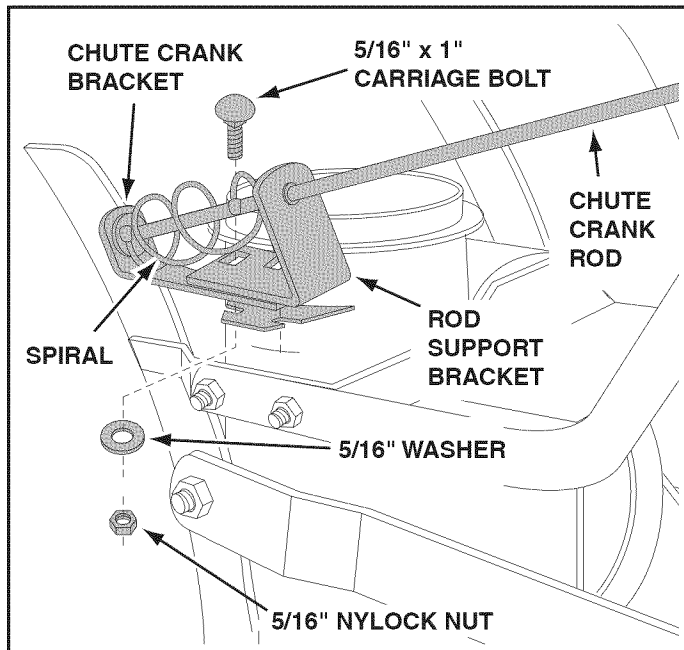

FIGURE 19
### STEP 19: (SEE FIGURE 19)
- Position the crank rod spiral (see figure 19) so that it does not rub against the bottoms of the notches in the chute flange. **Tighten** the nuts.